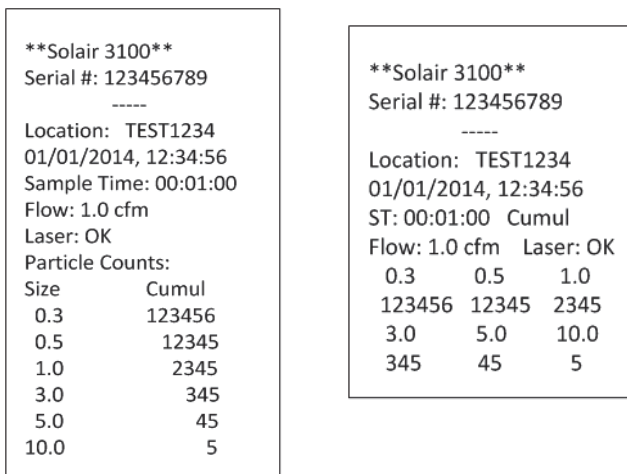

Figure 6-56 Portrait and Landscape Print Examples
- **PORTR** - Prints the report in portrait mode. See Figure 6-56.
- **LANDSC** - Prints the report in landscape mode. See Figure 6-56.